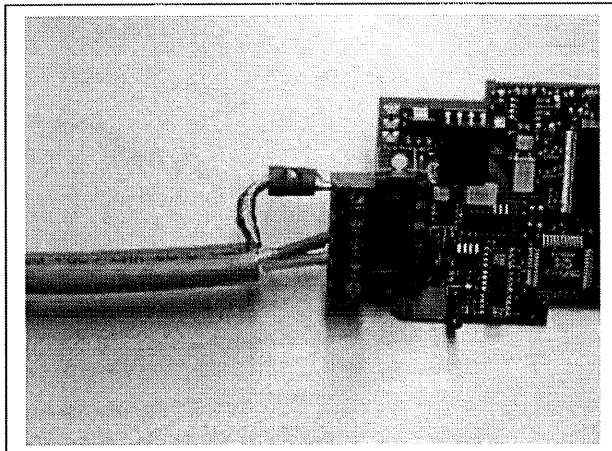

Figure 3-6. Grounding the Last Device on the Net
2. Leave no more than 1 cm of the cable outside the terminal block and strip the data cables at about 0.5 cm to fit in the terminals. See Figure 3-6. Do this for both bus cables.